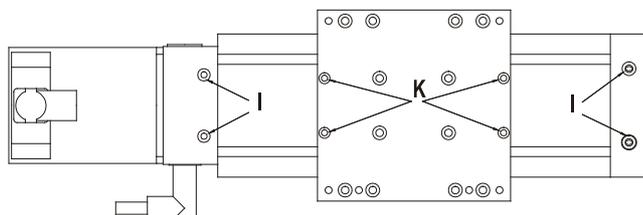
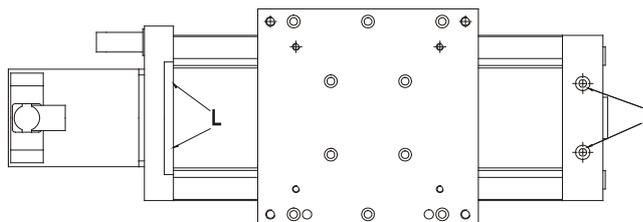

Figure 30: Top view linear unit module 105 S
Figure 31: Top view linear unit module 142 S
- Remove retention plates and blank holders by loosening the attachment screws (I) and (K), (see *Figure 30, bottom*).
- Remove retention plates by loosening the attachment screws (L) (see *Figure 31, bottom*)
- Remove retention plate for cover belt on the end plate side, (see *Figure 30, page 32* or *Figure 31, page 32*)
- Remove retention plate for cover belt on the end plate side, (see *Figure 30, page 32* and *Figure 31, page 32*)
- Tension cover belt and install retention plate (see *Figure 30, page 32* or *Figure 31, page 32*)
- Remove retention plate for cover belt on the end plate side (see *Figure 30, page 32* or *Figure 31, page 32*)
- Tension cover belt and install retention plate (*Figure 30, page 32* or *Figure 31, page 32*)